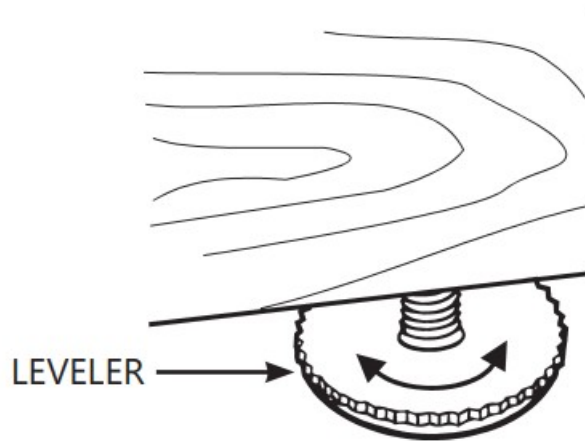

FIGURE 2
Position the clock into its final location. Once in place, your clock cabinet must be leveled, as the clock may not operate if it is not level. There are four (4) levelers under the cabinet on each corner that can be screwed in (up) or out (down) to make adjustments. Place a level alongside the clock cabinet from front to back and side to side, adjusting the levelers until level. It may be necessary to periodically check your cabinet after initial set-up, (especially if the clock is on carpet), as it might settle after original leveling. (see figure 2). Ensure clock is positioned square and firm on the floor so that it will not fall over.